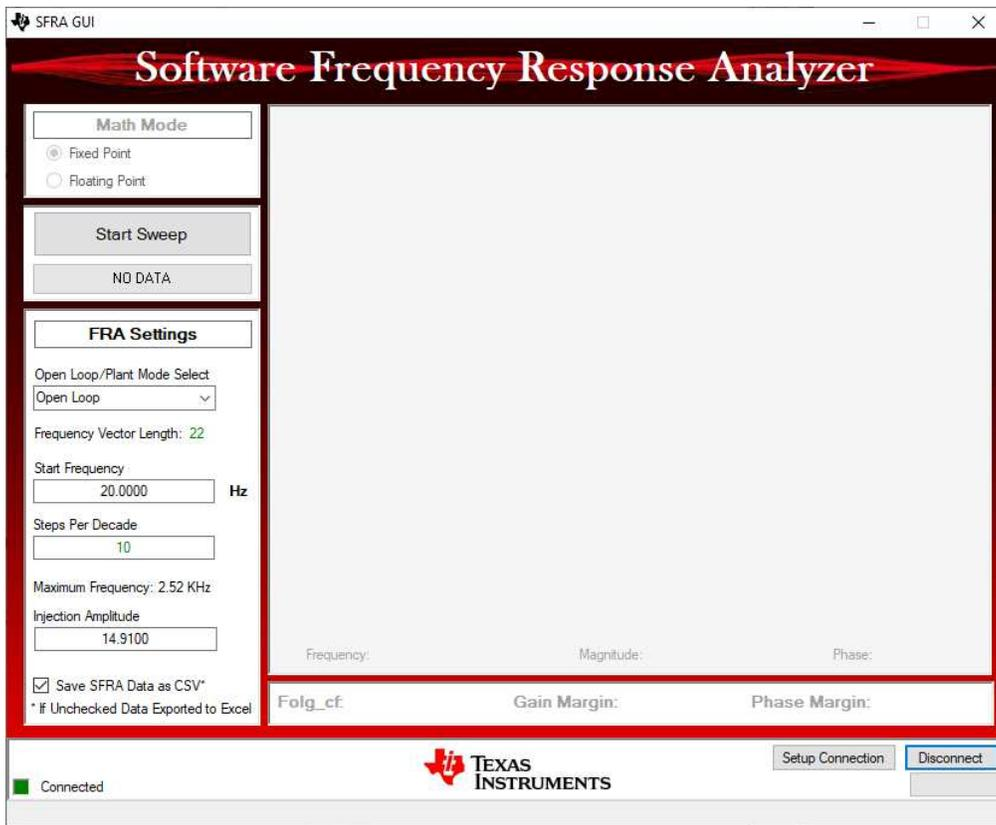
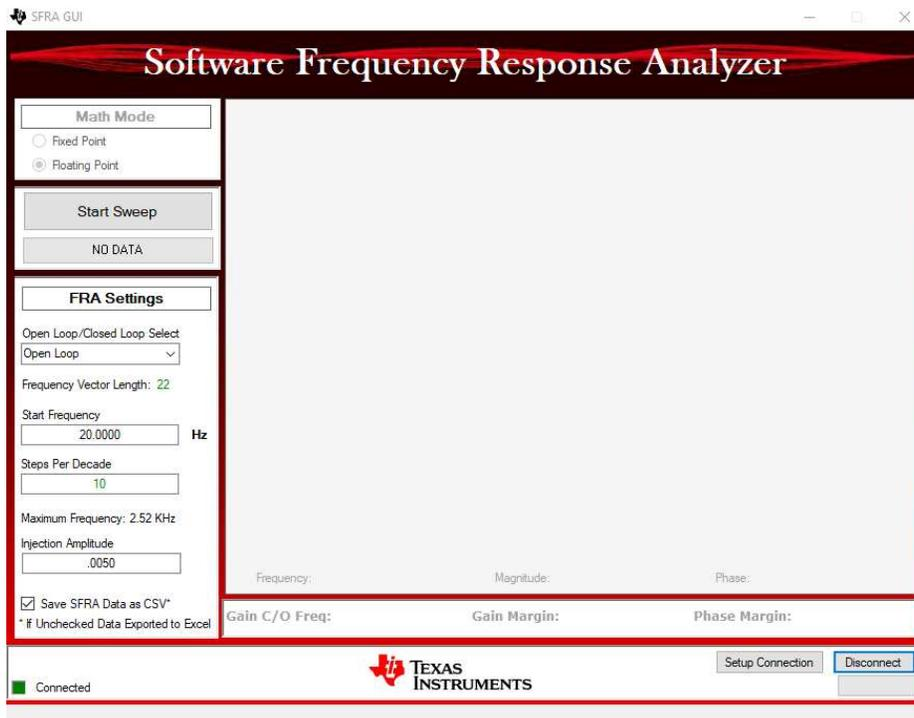

Figure 33. SFRA GUI
Figure 34. SFRA GUI MC
1. Double click on the choice of GUI executable and the GUI screen will appear as shown in Figure 33 for SFRA\_GUI or in Figure 34 for SFRA\_GUI\_MC. They look almost identical, the difference is in the pull down menu under 'FRA Settings' starting with the label 'Open Loop'.
8. This should establish the connection to the LaunchPad and the GUI will appear as shown in Figure 33 indicating the connection status at the bottom left corner.